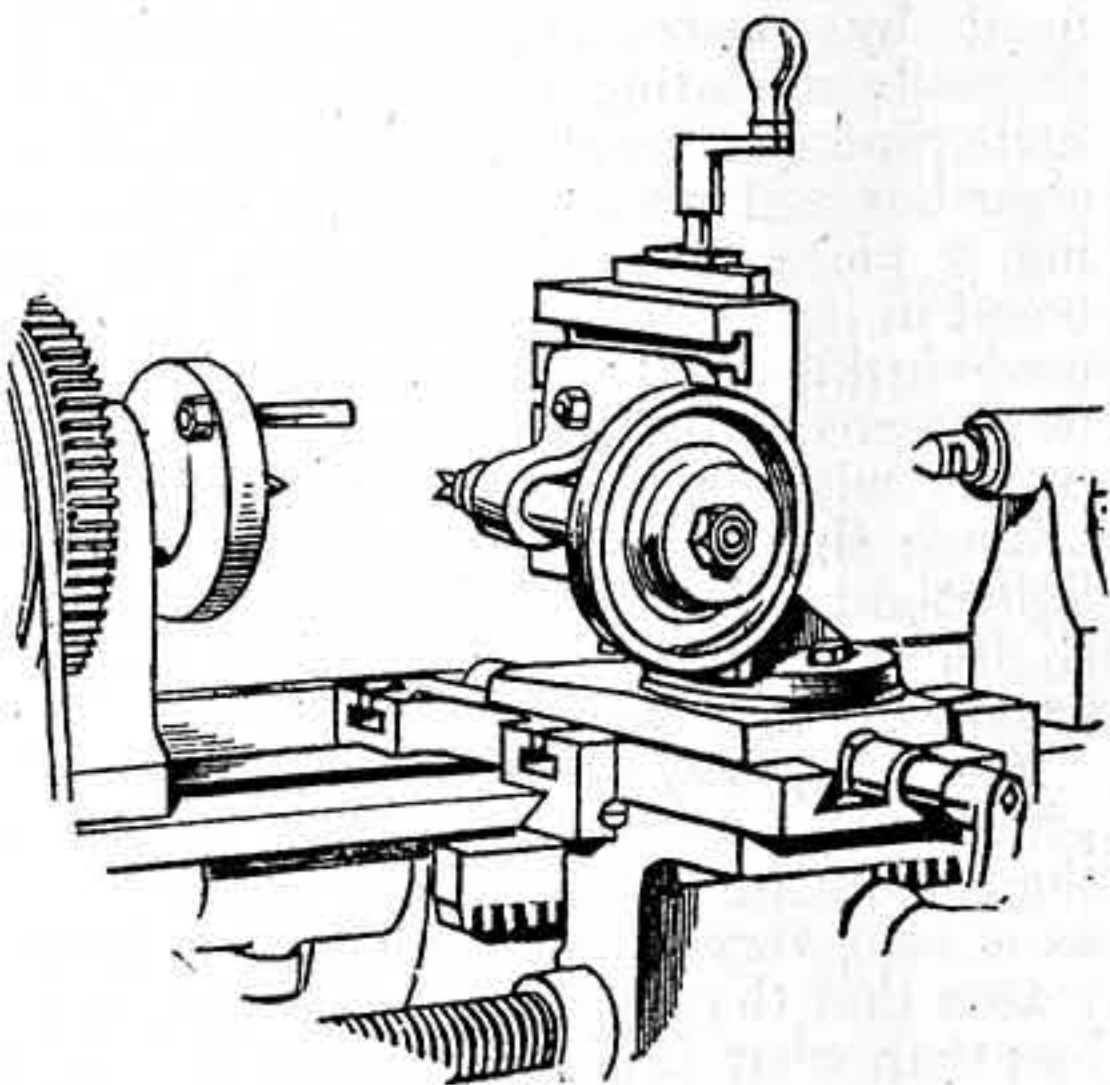
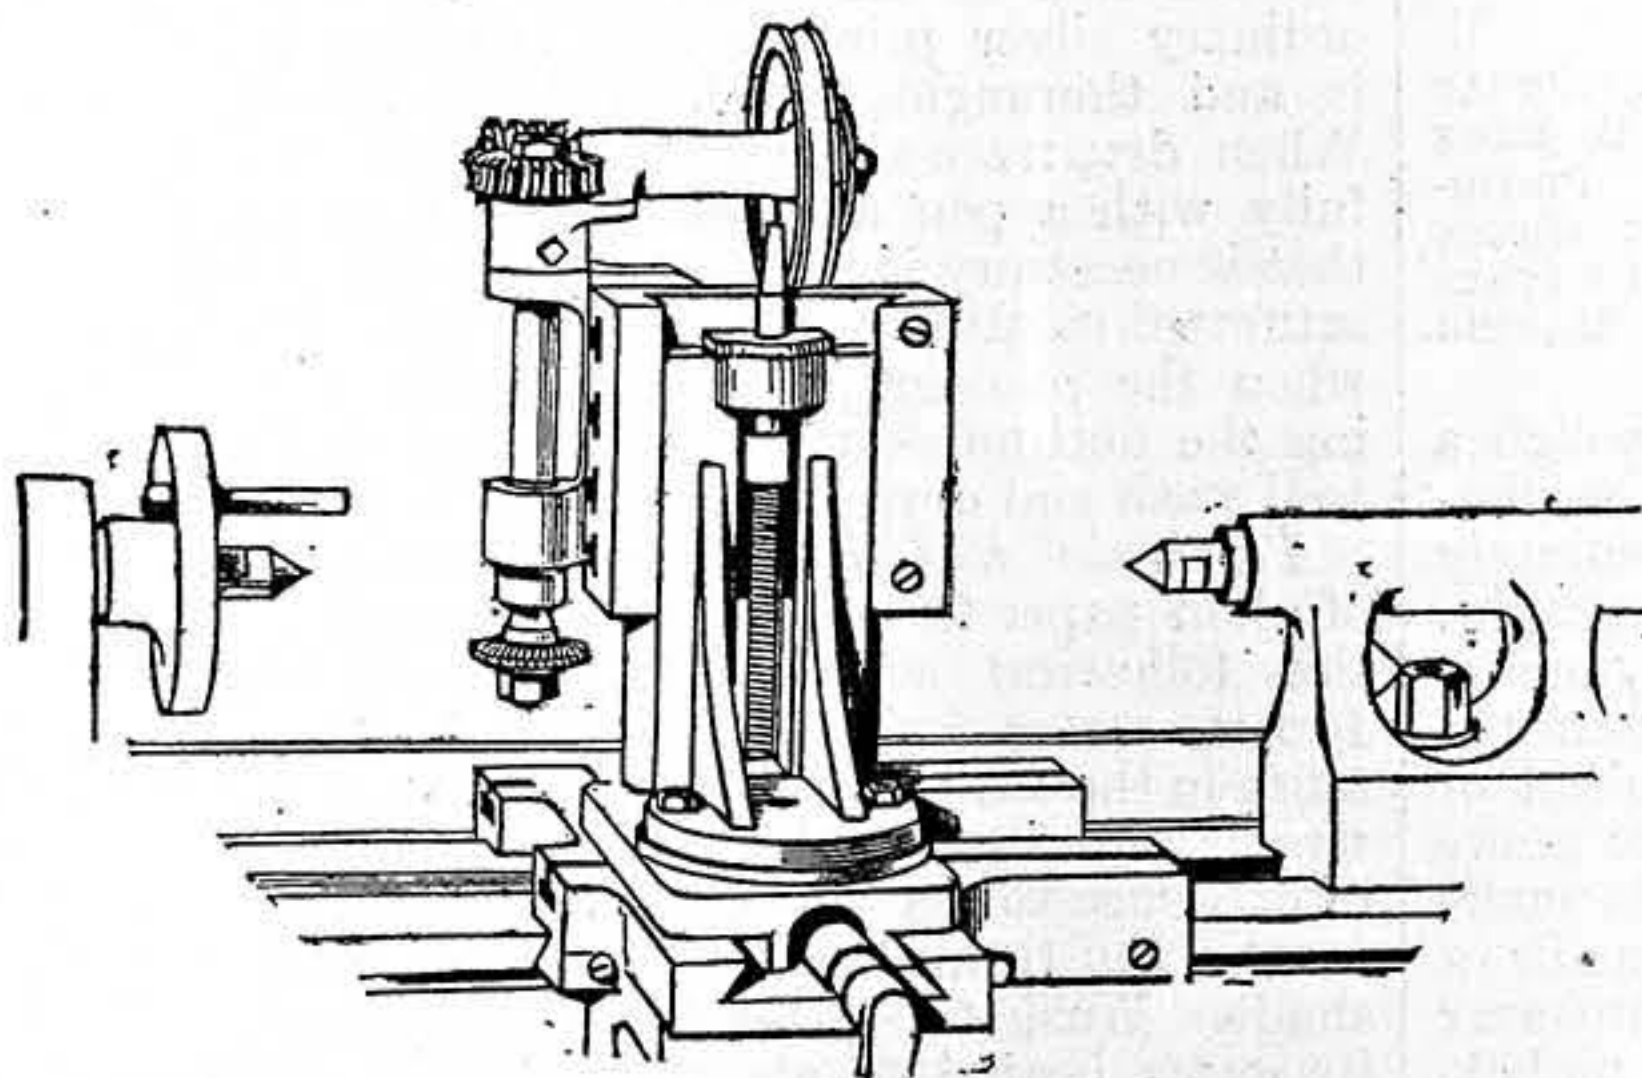

Fig. 4.—Gear-Cutter arranged for Slot-Drilling.
Fig. 11.—Appliance arranged for Wheel-Cutting.
Fig. 4 represents a penny tape measure (shoemaker's); it has inches on one side, and sizes (three to an inch) on the other. A 5's last measures just 10 in. Before buying the lasts, take the length of the draft from c to d (Fig. 3) with this tape, and, supposing it to measure size 5, you will need a last size 7. Had the length been taken with a size-stick off the ground, it would only have drawn size 4, but you would have needed a 7's just the same. This proves that the joints in the toes elongate in walking, and shows the urgent necessity of having the boot or shoe longer than the foot. When the size of the foot has been taken, as shown by Fig. 5, it should be put upon the drawing.
2, 3, and 4 in Fig. 10. Each piece, however, must be put on separate and allowed to dry in order to block it to the last before it is taken off; then the edges can be cut evenly all round, taking care not to take the block (or shape) out. Each piece must be served the same way. For the benefit of booking* them, they can be marked 1, 2, 3, and 4, as shown above. Bunion pieces should be pegged on with fine ½ in. pegs. The piece of leather must be put on wet, and pegged so that it can be skived down all round smooth to the last, leaving an even projection to the shape desired. To put in pegs, a hole must always be made with a peg-awl (Fig. 11) quite as deep as the peg is long, the peg being always driven home with one blow from the hammer. To get the last out of the shoe a tool called
Boot and Shoe Making. Fig. 1.—The Last (1) and Block (2). Fig. 2.—Bottom View of Last with Three Shapes of Toes. Fig. 3.—The Shape of the Foot on a Sheet of Paper. Fig. 4.—Shoemakers' Tape Measure, with inches on one side and sizes on the other. Fig. 5.—The Stockinged Foot, showing how to take the Measure. Figs. 6, 7, 8, and 9.—Tools as Noted. Fig. 10.—Last with Fittings and Heel-pin, showing their Position. Fig. 11.—Peg-awl in Handle. Fig. 12.—Last-hook with Handle.
Fig. 4 shows how the geared driller can be attached to the face of the vertical slide. This part is shown in detail in Figs. 5 to 10. The driller may be driven by the worm and wheel, or the pulley may be exchanged for the worm-wheel, when it appears as in Fig. 4, and is driven by the band direct. The small bracket (Figs. 9 and 10) fits upon the end of the driller; it carries a hard steel spindle running in hard collars; at one end of this spindle is a two-speed groove pulley, and at the other a worm; this little bracket can be swung round to suit the band, and fixed, or it may be taken off altogether. Passing on to the main drilling spindle (seen in section at Fig. 6), it is bored
Geared Wheel-Cutter and Driller. Fig. 1.—Vertical Slide for Milling. Fig. 2.—Plan View. Fig. 3.—Side View of Angle-Bracket. Fig. 4.—Side View of Wheel-Cutter and Driller. Fig. 5.—Sectional Plan. Fig. 6.—Section through A B. Fig. 7.—Section through A B. Fig. 8.—End View of Section of Worm Shaft. Fig. 9.—End View of Removable Worm Shaft Bracket. Fig. 10.—Plan of Worm Shaft Bracket.
Fig. 11 shows the apparatus arranged as for wheel-cutting, except that it should be bolted on to the tool-plate, so as to raise it higher up; also the swivelling bracket is secured by a set-screw instead of by the proper method shown at Figs. 9 and 10.
The lath hammer (Fig. 2) is used for nailing the laths to ceilings and stoothings. Mitring tools (Fig. 3) are used for mitring mouldings, and are of various sizes; they are made of steel. The mitring rule (Fig. 4) is also used for mitring mouldings. Flat and round brushes are also used by plasterers, and moulds of various kinds. The mortar is laid on a large mortar board, supported on legs about 2 ft. 6 in. high. For preparing the mortar, riddles and sieves of various degrees of fineness are used. A scoop with a long handle is used for ladling the liquid lime into the riddle; and a drag, which is a rake with two or three iron prongs, is used for mixing the hair with the mortar. A wooden beater 4 in. square, with a cross handle at the top, is also used for beating the mortar.
Plasterers' Work. Fig. 1.—Plastering Trowel. Fig. 2.—Lath Hammer. Fig. 3.—Mitring Tools. Fig. 4.—Mitring Rule.